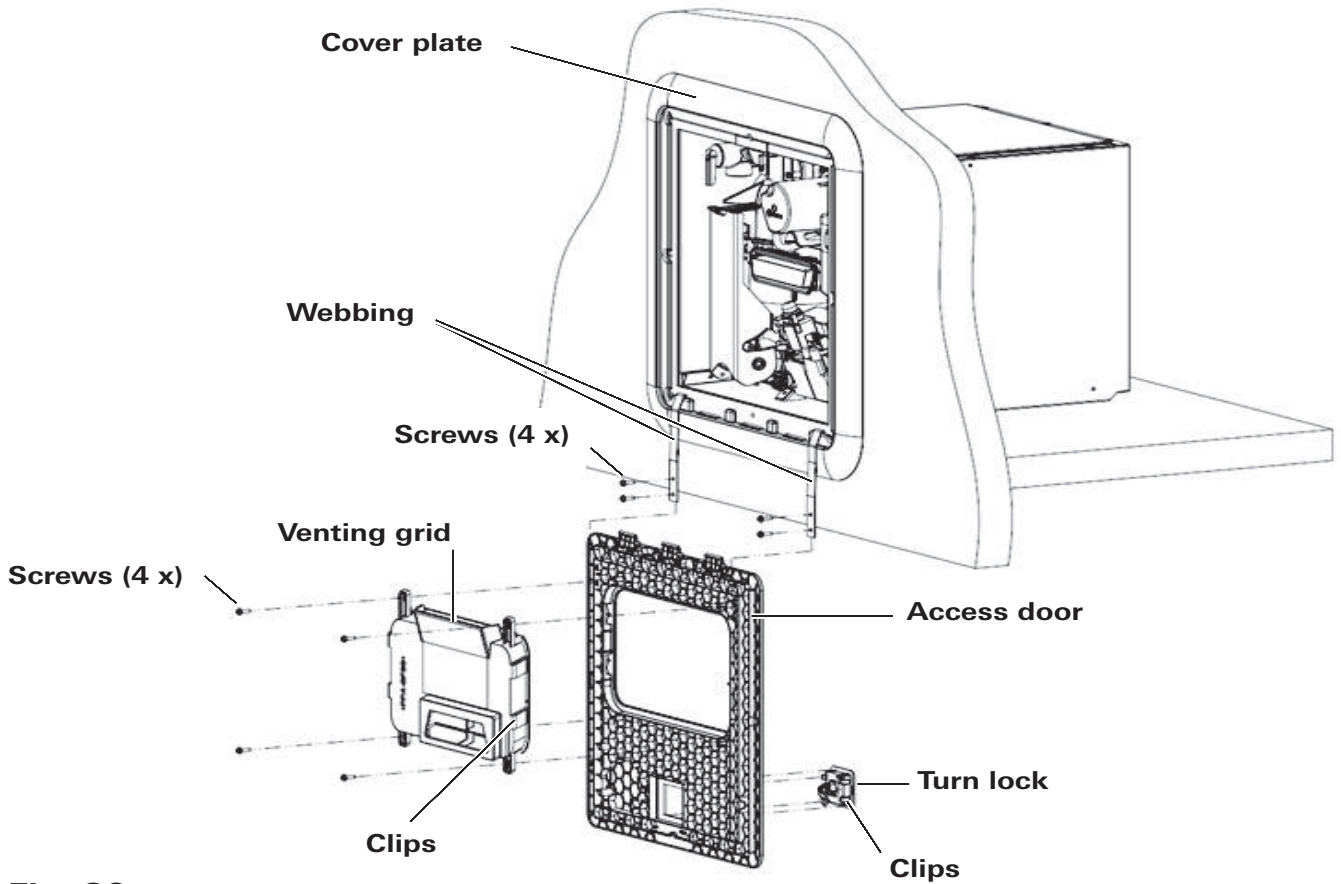

Fig. 36
The following parts (see Fig. 36) must not be painted:
- After removing the screws, depress the four (4) clips on the side of the venting grid and remove it as shown in Fig. 36.
To remove the turn lock, depress the four (4) clips and remove it as shown in Fig. 36.